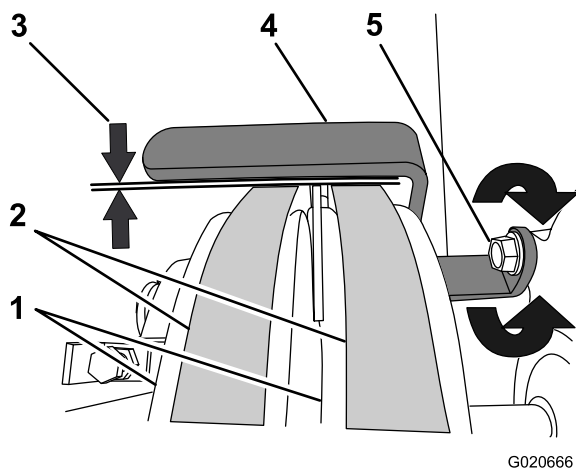

Figure 40
3. Check that the air gap between the belt guide and the belts is 2.5 to 4.0 mm (3/32 to 5/32 inch); refer to Figure 40.
- B. Rotate the belt guide up or down until there is an air gap of 2.5 to 4.0 mm (3/32 to 5/32 inch) between the guide and each belt (Figure 40).
- C. Tighten the nut that secures the belt guide to the motor (Figure 40).
- A. Loosen the nut that secures the belt guide to the motor (Figure 40).